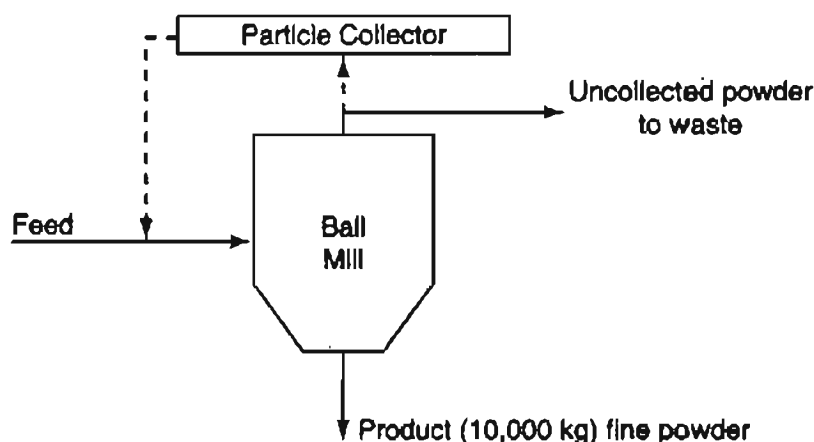

Figure SAT12.2P1
1. A ball mill grinds plastic to make a very fine powder. Look at Figure SAT12.2P1.